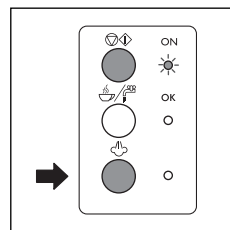
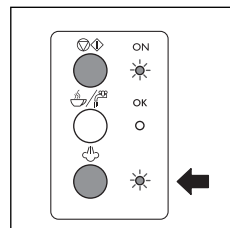

fig. 16
fig. 17
2. Press the steam button (fig. 16) and wait for the steam indicator light to come on (fig. 17). The OK indicator light indicates that the boiler has reached the ideal temperature for steam production.